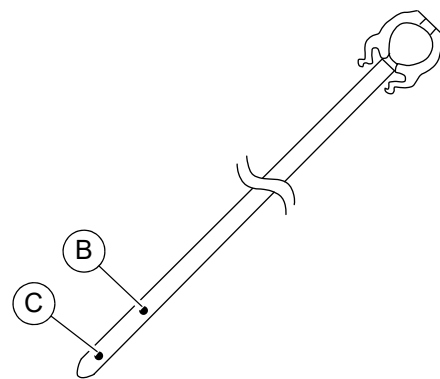

Figure 4-2. Oil Dipstick Reading
3. See Figure 4-2. After 10 seconds, remove the oil dipstick and look at the oil level on both sides. The lower of the two readings will be the correct oil level measurement. Oil level must be between the MAX (B) and MIN (C) marks.